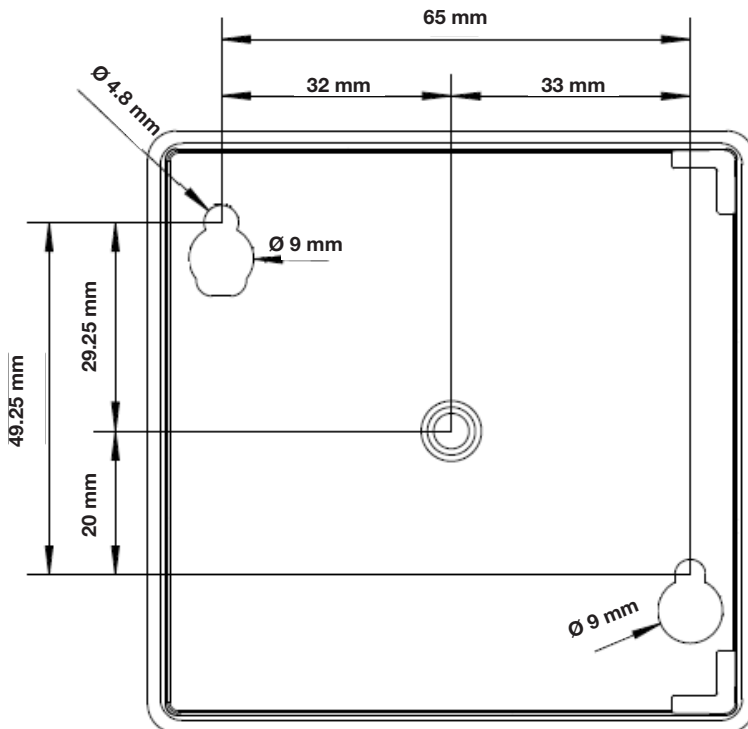

Fig. 1
3. Connect the cables as shown in the wiring diagram (fig. 1).
Ethernet (RJ45): For connection to router. Cable length must not exceed 3 metres. (See fig. 1).